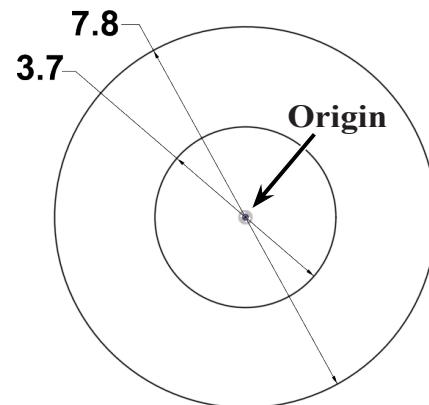
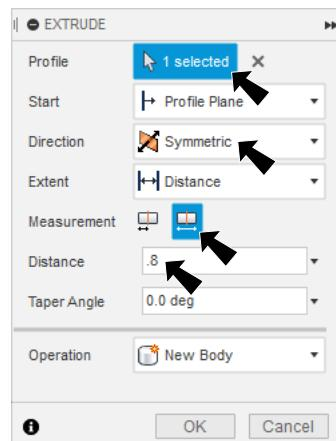

Fig. 2
Fig. 3
Step 2. Click **Center Diameter Circle** (C) in the Create area of toolbar.
Step 3. Sketch **two circles** at the **Origin** , Fig. 2.
Step 4. Click **Dimension** (D) on the toolbar.
Step 5. Dimension circle **diameters 3.7** and **7.8**, Fig. 2.
Step 7. On the Solid tab **SOLID** click **Extrude** (E).
Step 8. In the Extrude panel set, Fig. 3